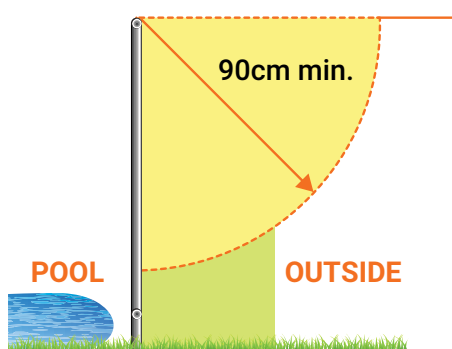

Figure 3 – climbable surfaces, outside the pool area, located at least 90cm away from the top of the fence.
b. Are climbable surfaces, outside the pool area, located at least 90cm away from the top of the fence? (see Figure 3)	<input type="checkbox"/>